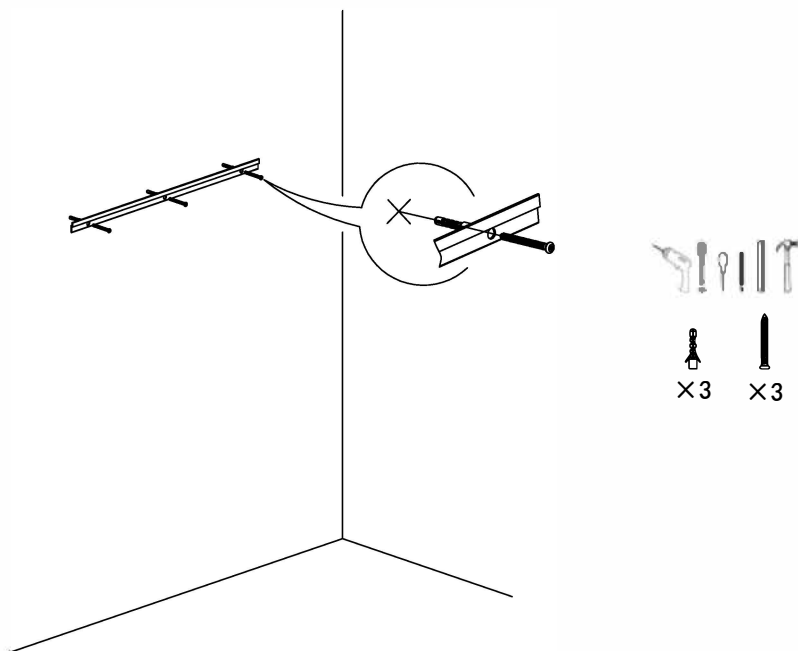

Fig. 2
1.4 Knock the wall plugs into the holes with a hammer, and fix with screws (Fig 2)